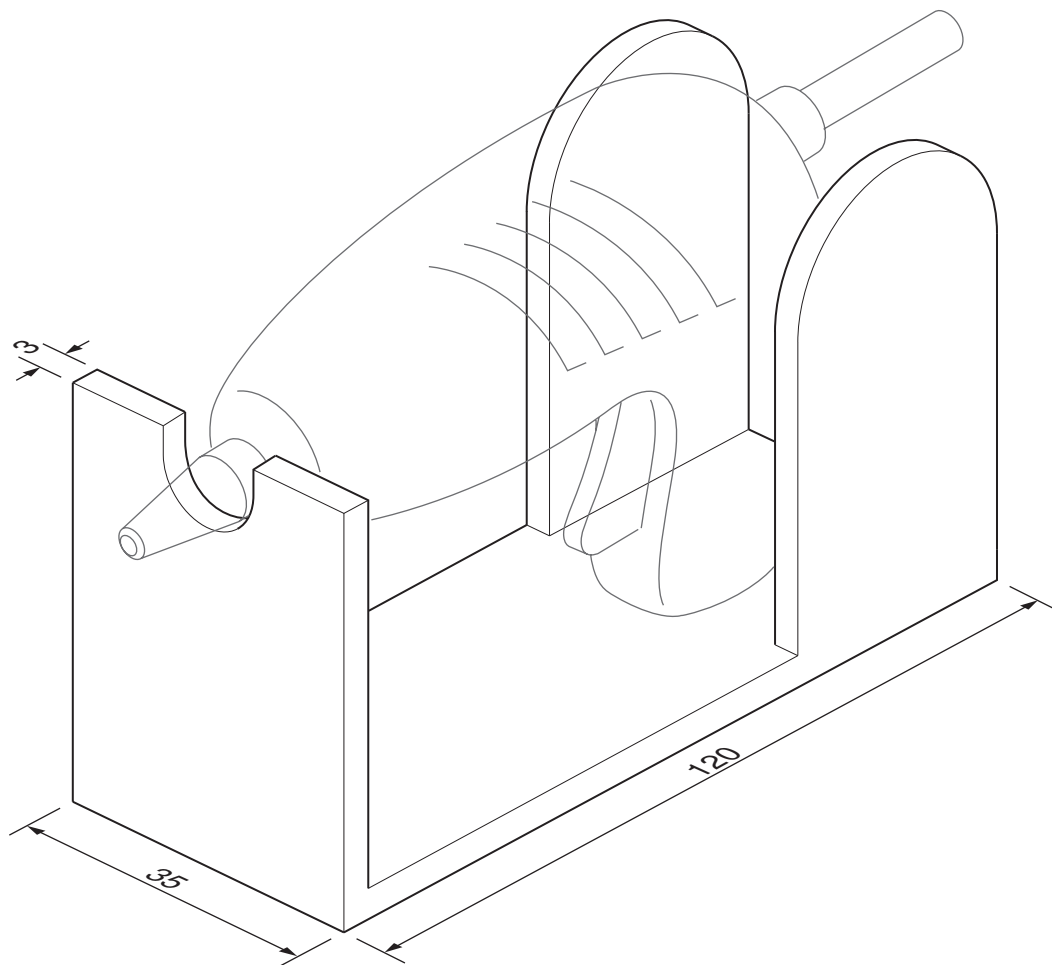

Fig. 2
- 2 Fig. 2 shows the design of a prototype support for an electric glue gun.